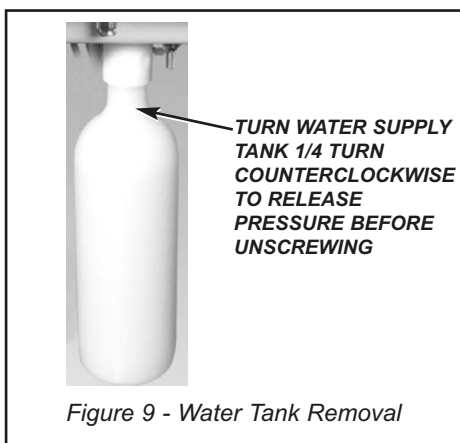

Figure 9 - Water Tank Removal
4. **WATER SUPPLY TANK** - The Aseptico ADU-20B incorporates a self contained pressurized water system (Fig. 9). This consists of a 2-liter HDPE tank dispensing water through the 3-way syringe and handpiece control. The water tank is pressurized to a constant 35 pounds per square-inch gauge (PSIG) during use.